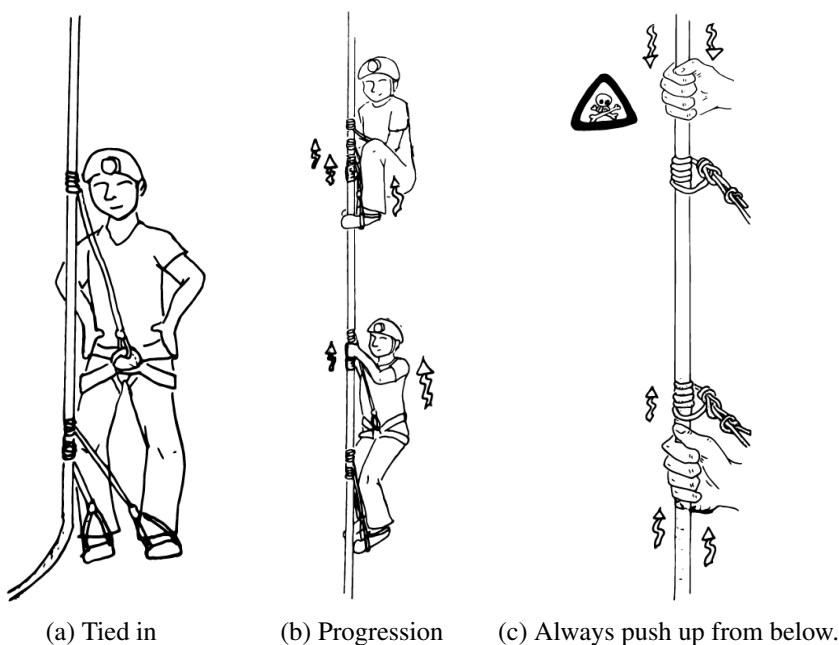

Figure 20: Climbing on knots. Move your knots one at a time. Do not pull down on the helical, or it will release
1. Positioning landmarks for yourself on the rope: Tie your topknot at eye level, and your foot loops at knee level. Figure 20 (a)
2. Focus on getting your feet underneath you and stepping up with your legs. It's much less tiring than pulling your body up with your arms. Figure 20 (b)
3. Advance the knots by pushing up from UNDERNEATH. Figure 20 (c)
CAUTION: If you grab the climbing knot directly or weight the knot from above, it is likely to unlock and start free rappelling down the rope (Figure 20 (c)). This can result in a situation referred to as a “heel hang”, where the top knot slips down until it is stopped by the bottom knots. If there is momentum, a full rappel where all 3 knots lose their friction is possible. It is a difficult or deadly position to be in. Be mindful of where you are putting your hands!